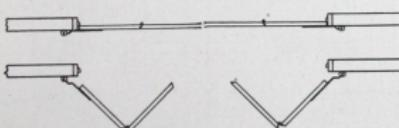

Fig. A-521-A—Floor plans of four-door "Slidelite" No. 1035 doorway showing, (1) doors closed, (2) doors partially opened.
Fig. A-521-B—Floor plans of four-door "Slidelite" No. 1035 doorway showing, (1) doors open parallel with side walls, (2) doors open parallel with front wall, giving absolute clearance from jamb to jamb.